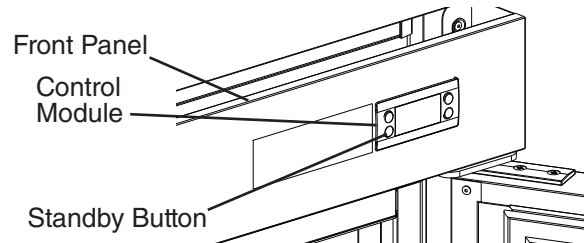

Fig. 60
- 2) If the cabinet temperature is not displayed on the control module, press and hold the standby button on the control module until "ON" appears in the display. See Fig. 60. Factory default is "ON".